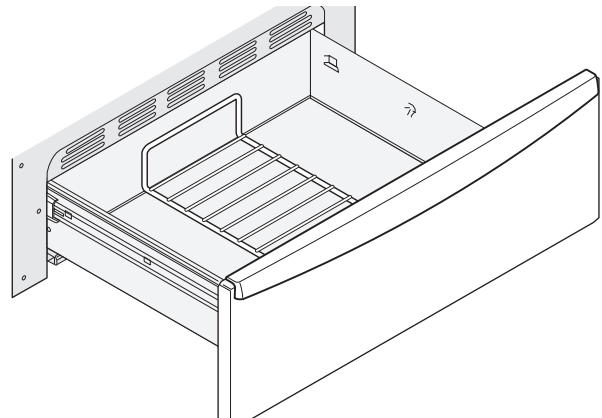

Figure 44: Warmer drawer rack in downward position
- In the **downward position** (Figure 44) to allow for light weight food items and empty cookware (for example, rolls or pastries and dinner plates) on the rack.